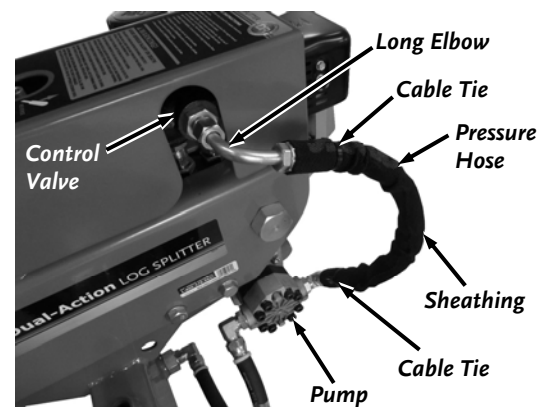

Figure 14
23. Slide the Sheathing over one of the Pressure Hoses and secure it to the Hose with a Cable Tie near each end (**Figure 14**).